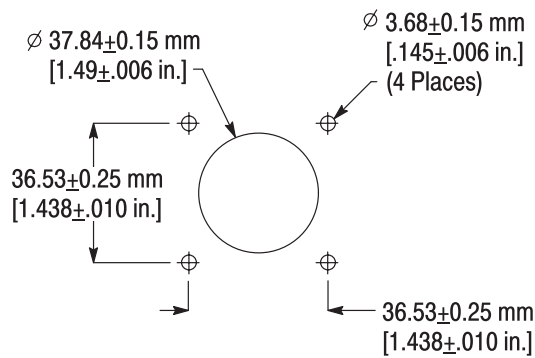

Figure 3
4. Cut the panel using the dimensions provided in Figure 3.